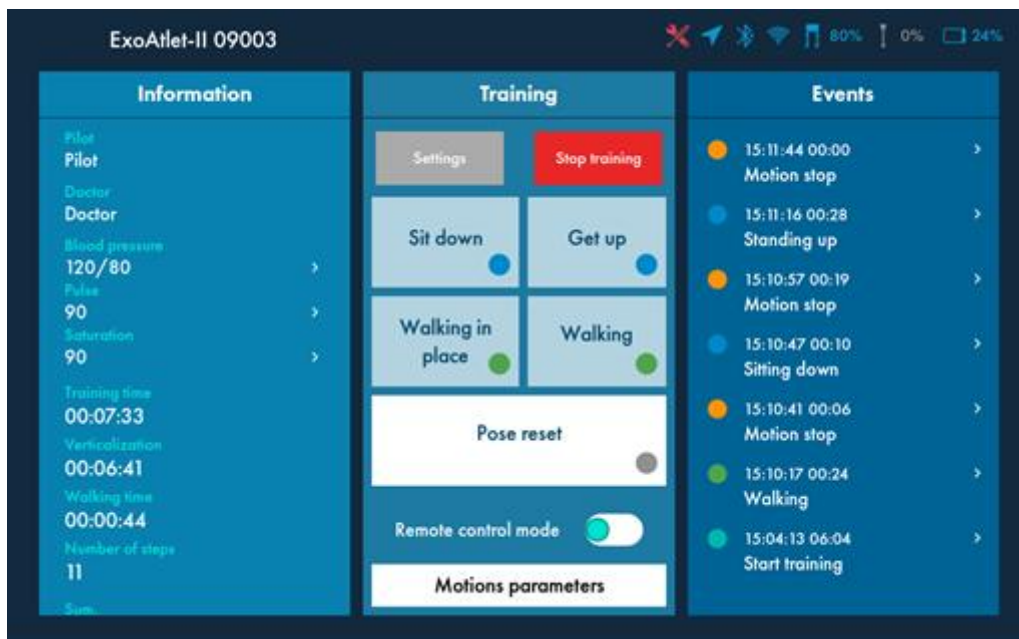

Figure 53
- ① Undefined pose – when limbs of the exoskeleton are not in standard sitting or standing pose. If you moved some of the limbs before turning on exoskeleton, it will probably be in this pose. In this pose only "Pose reset" (more details in 8.2.2.3.5) motion is available (see Figure 53).